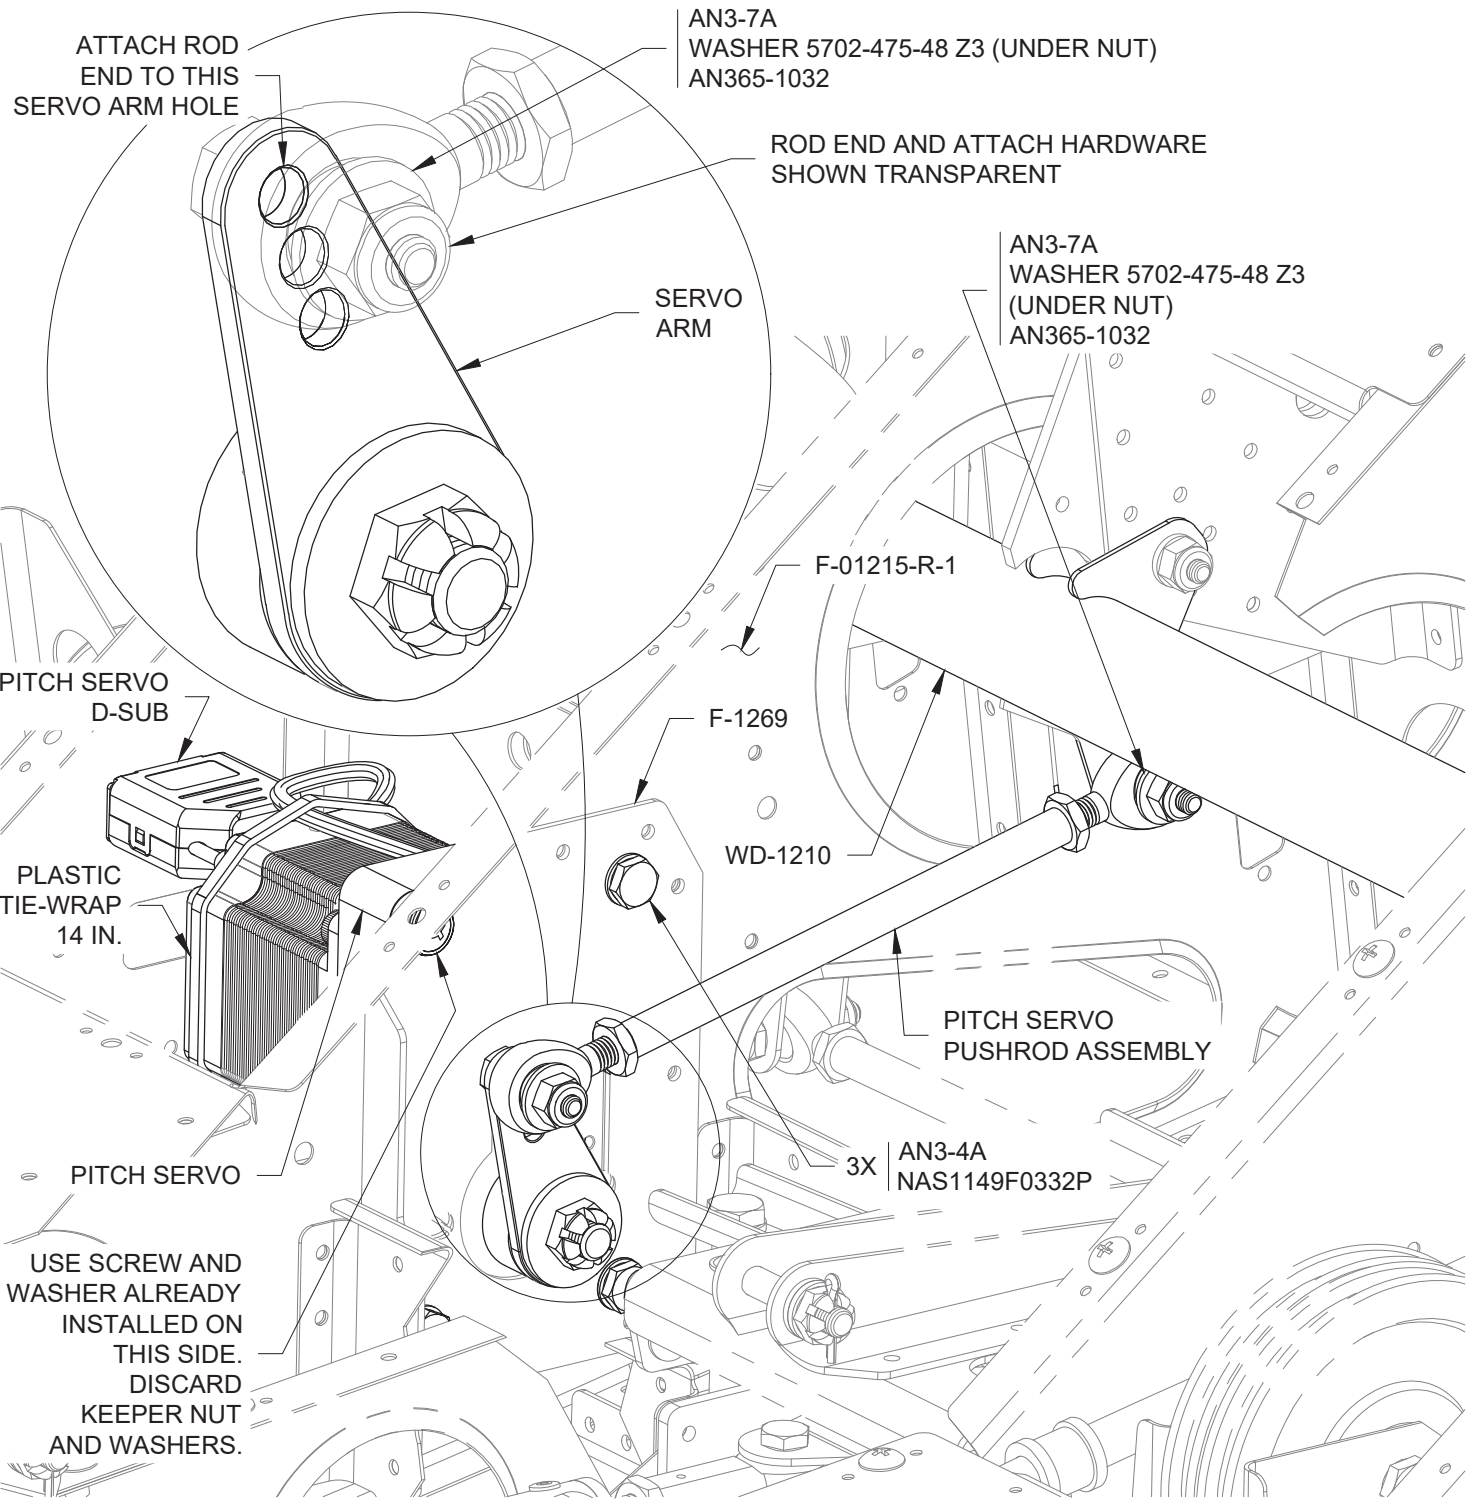

FIGURE 1: INSTALLING THE PITCH SERVO
Step 2: Attach the servo to the F-01215-R-1 Seat Rib and F-1269 Servo Doubler using the hardware called out and Loctite 242 or equivalent medium thread locker. See Figure 1.
Step 3: Connect the Pitch Servo Pushrod Assembly to the tab on the WD-1210 Control Column and the servo arm. See Figure 1.
Step 4: Remove the screws attaching the female d-sub connector to the F-01215-R-1, then connect the female d-sub to the male d-sub on the servo through the seat rib as shown in Figure 1.
Step 5: Install a tie-wrap around the servo to secure the wires and prevent chafing as shown in Figure 1.